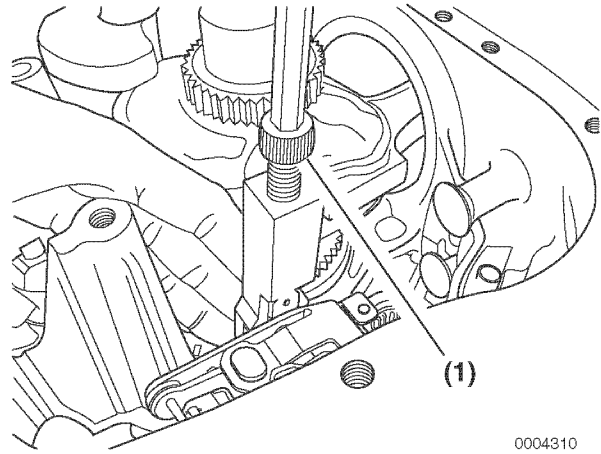

Figure 6-85
5. Tighten the hex cap screw (**Figure 6-85, (1)**) on top of the tool to push the pin through the governor lever and throttle shaft to remove the pin.